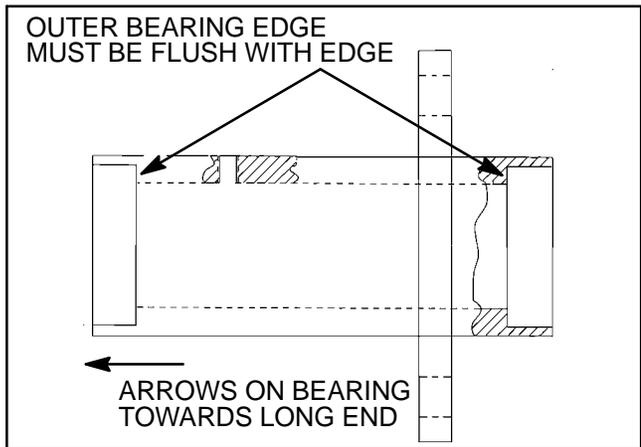

Figure 7
1. If drive studs (7) were removed, press new studs into the wheel hub (5).
2. Press roller clutch bearings (6) into the hub (5) as follows (Fig. 7):